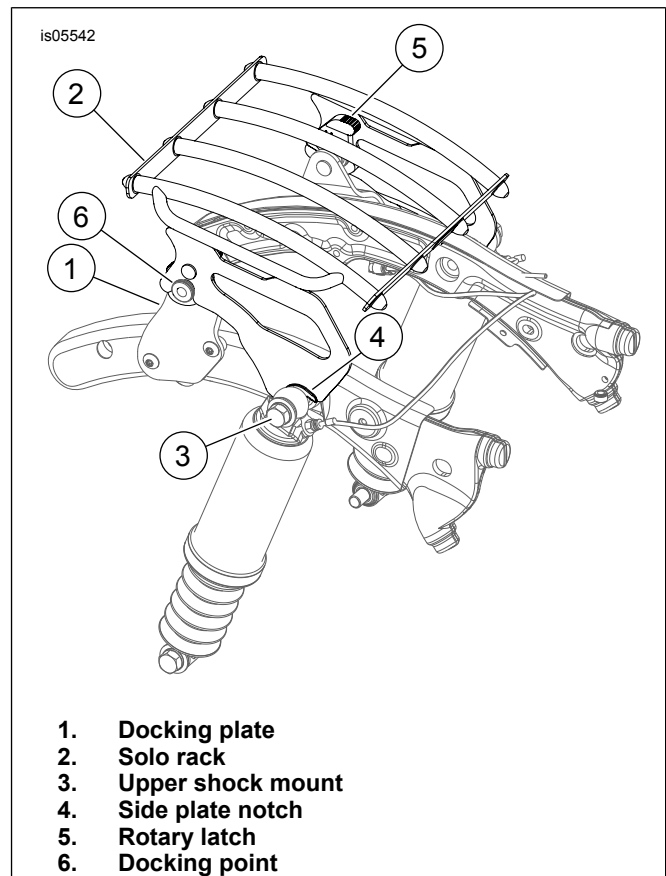
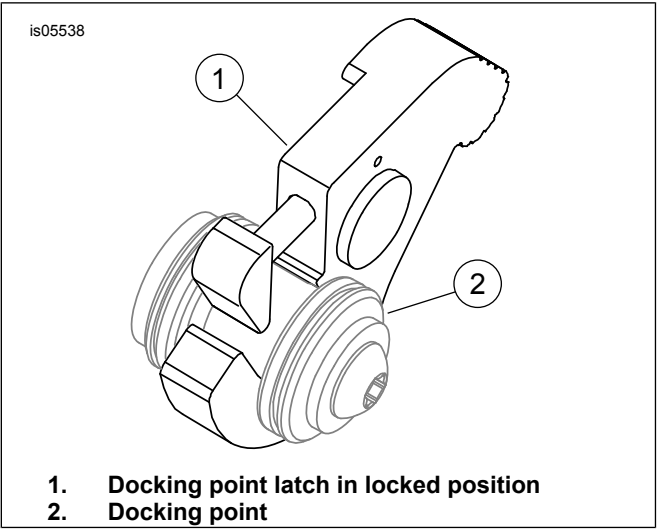

Figure 1. Detachable Solo Rack
Figure 2. Latch and Docking Point
2. See Figure 1. Stand behind the motorcycle. Place the rack side plate notches (4) into the upper shock absorber mounts (3). Make sure the notches seat fully into the mounts.
3. See Figure 2. Position the rotary latches (1) over the rear docking points (2). Verify the rotary latches fit into the neck of the rear docking points as shown. This may require some gentle squeezing or spreading of the side plates.
*** The docking points must be fully engaged. See Figure 1 and Figure 2 for correct engagement. If docking points are not fully engaged they could shift position or come loose during operation.**